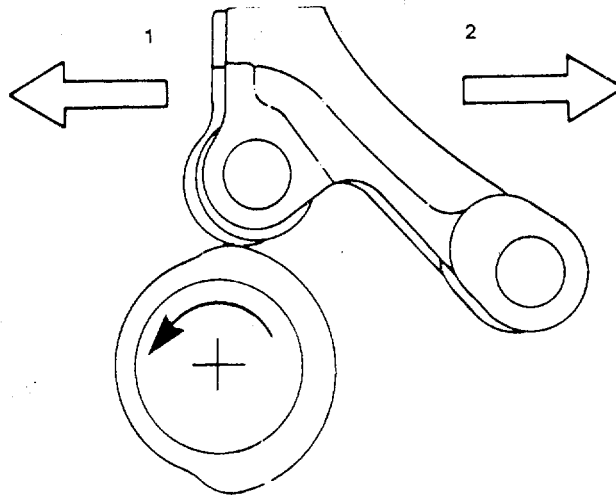

FIGURE 3-26. Cam Follower Action.
- (c) Injection Timing Changes. Injection timing changes are accomplished by Advancing (1) or Retarding (2) the cam follower action in relation to the piston position (Figure 3-26). This is accomplished by changing the orientation of the camshaft lobe to the cam follower using different cam follower gasket thicknesses or offset camshaft gear keys.